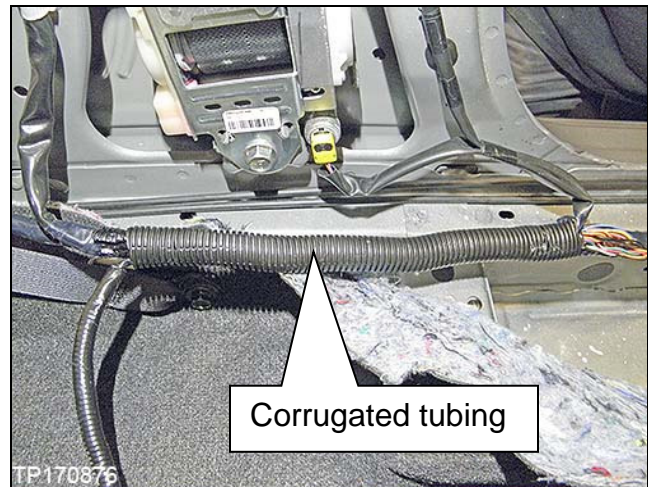

Figure 63
53. Reinstall the corrugated tubing over the harness (Figure 63).